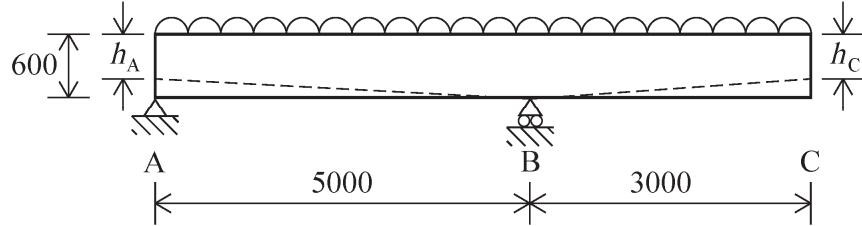

Fig. 3
3 An 8 m long reinforced concrete beam is supported at A and B as shown in Fig. 3. The beam is 300 mm wide by 600 mm deep and carries a characteristic live load of  $40 \text{ kNm}^{-1}$ .
- (c) After completing your design you are asked to advise on whether the beam could be tapered by reducing the beam height linearly from 600 mm at B to  $h_A$  at A and  $h_C$  at C, as shown in Fig. 3. By assuming that the bending moments and shear forces along the beam are unchanged from those in part (a), and by assuming that the maximum percentage of longitudinal and shear reinforcement determined in part (b) is not exceeded at any cross-section of the beam, determine the minimum depths for  $h_A$  and  $h_C$ . [30%]